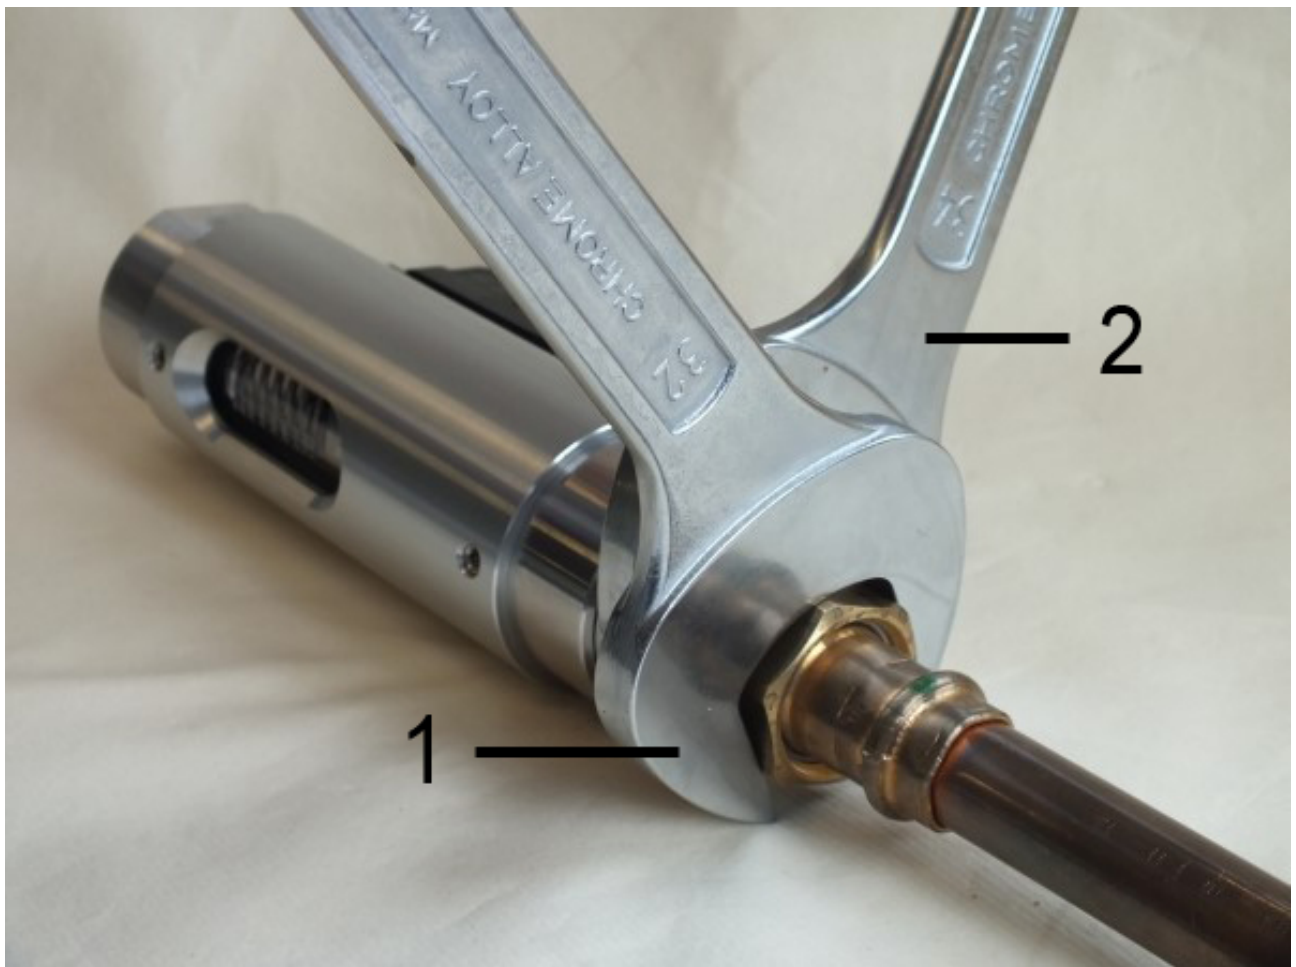

Fig. 11: Screw in the device
3. ➤ Keep turning in the adapter union (Fig. 11/1) while holding the process connection of the device locked (Fig. 11/2) until the connection is tight